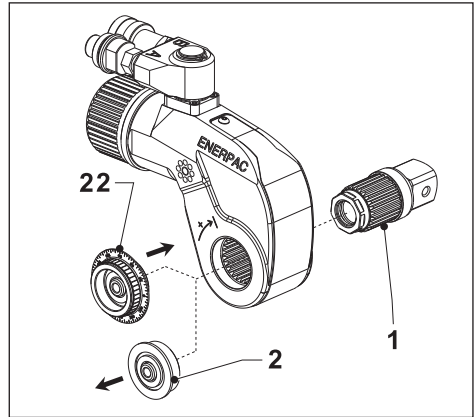

Fig. 13
4.3.5 Using the Angle Of Turn Indicator (Fig. 13, 14 and 15)